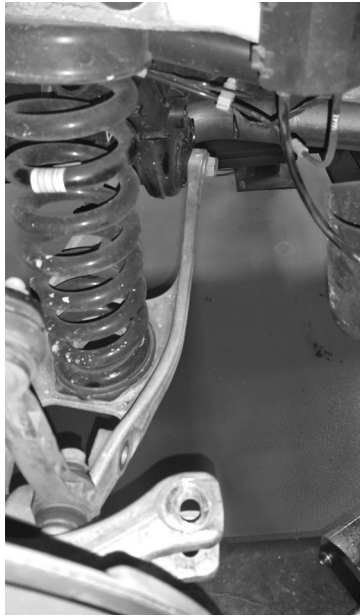

Fig. 9
- Lower the jack to allow for removal of the coil spring. Leave the upper spring cup in place. If it comes out with the spring, set it aside and reinstall it with the air spring assembly. Remove the rubber isolator from the spring cup. (Figs. 9 & 10). After the coil spring is removed, raise the control arm and reinstall the bolt. Torque to 165Nm (122 lb.-ft.).